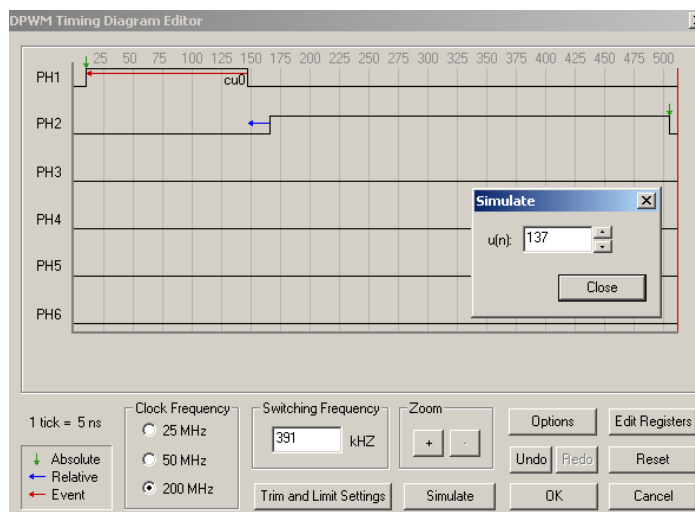

Figure 11. DPWM Timing Diagram Editor—Timing Simulator
- Click the **Simulate** button to display the Simulate Window (see Figure 11). Use the arrows to increase and decrease the value of $u(n)$. Notice that Phase 1's edge should modulate with its absolute edge starting at 10 ticks. Phase 2 should also modulate. However, its rising edge starts relative to Phase 1's falling edge.